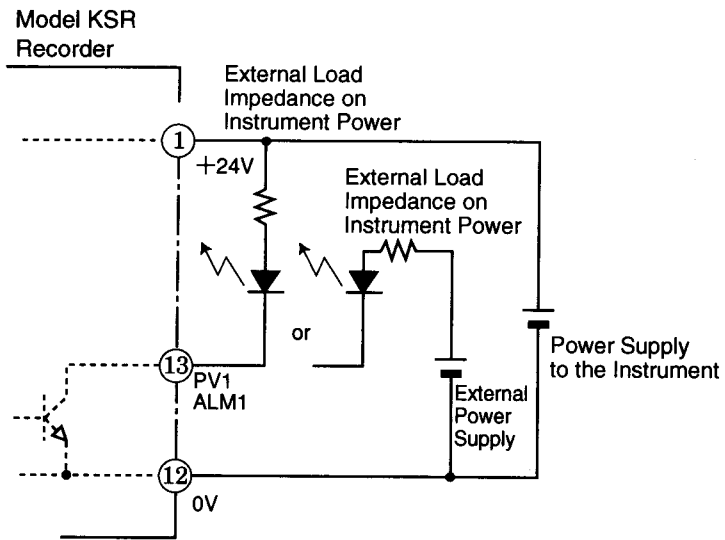

Figure 4-1. Connection Example of Load Impedance
When driving the integral lamp, shortcircuit between the lamp input terminals (⑥, ⑦, ⑧, ⑨, ⑩ and ⑪) and the alarm contact + the terminal. The lamp is driven from the instrument power in this case. Refer to Figures 4-1 and 4-2.